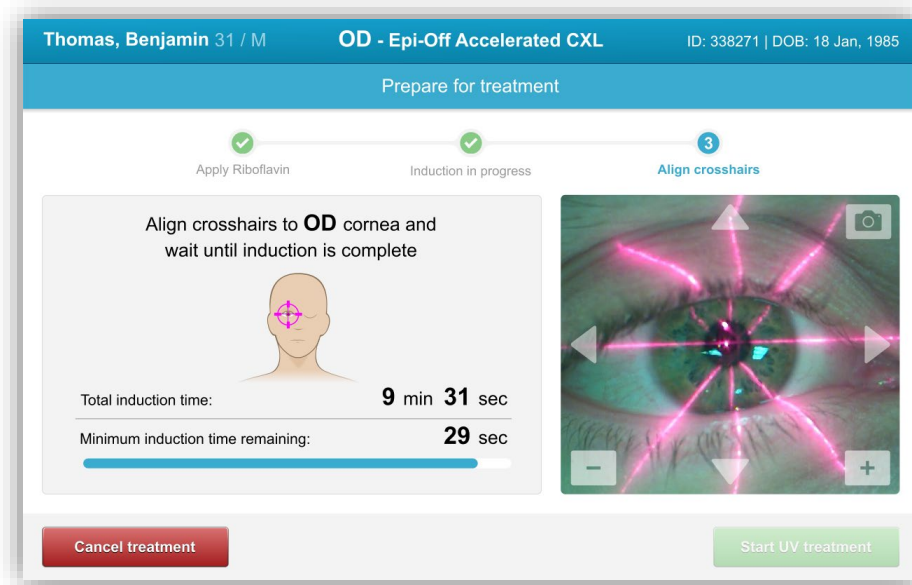

Figure 3-23. Align Crosshairs During Induction
- Red alignment lasers will turn on 30 seconds before the end of the Induction period as shown in Figure 3-23.